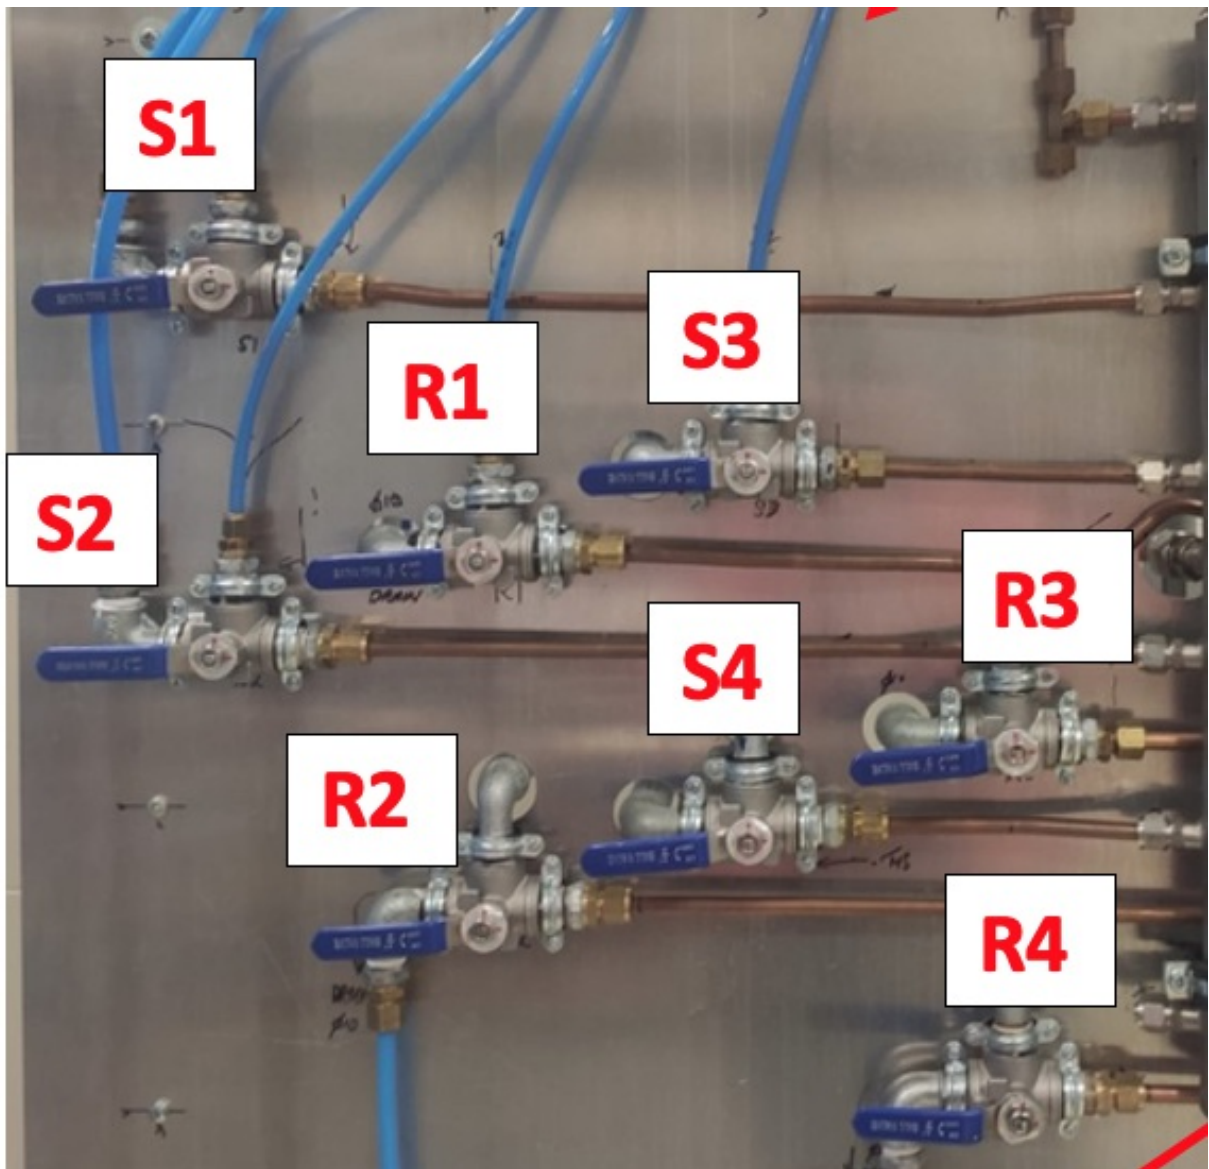

Figure 7
5. All the valves in the distbution panel should be in the horizontal position as shown in Figure 7 , this insures that the water will flow in the chambers.